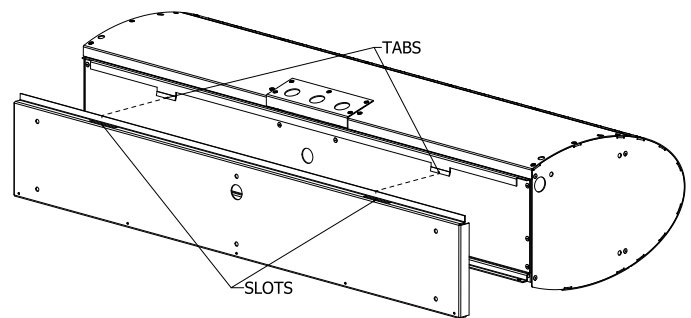

FIG. 2
5. Align the tabs on the rear of the unit with the slots provided on the wall mounting plate (FIG. 2). The bottom flange on the unit must also drop in the bottom channel of the wall mounting plate. Replace the Tek Screws to secure the unit in place.